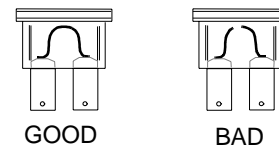
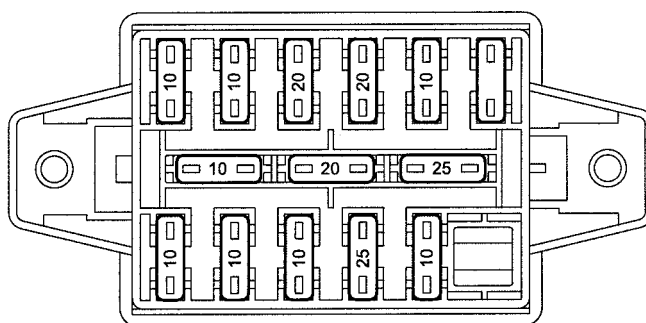

Figure 77
Figure 78
- Carefully pull out the appropriate fuse(s) and check for a blown fuse. Replace with the same size fuse. See Figure 77 and Figure 78.